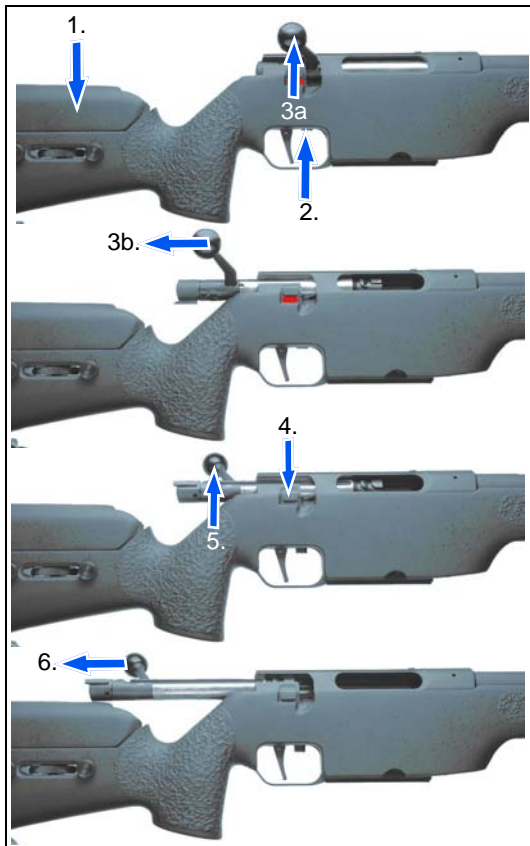

Abb. 5, Removing the bolt
4. Insert the cocked bolt into the receiver by rotating it slightly. The removal position (bolt handle turned to the left by 90°, see Fig. 5/5.+6.) is the best position to install the bolt.
5. Rotate the bolt until the bolt handle slides into the guideway of the receiver (see Fig. 5/3b.).